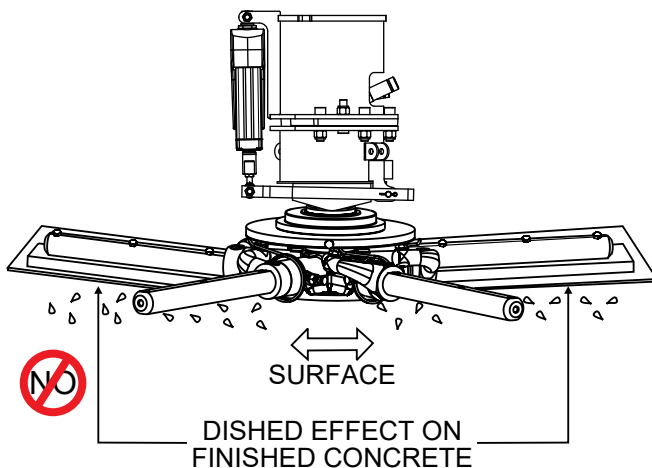

Figure 70. Incorrect Spider Plate Alignment
3. If any adjustment bolts are not making contact with the lower wear plate, adjustment will be necessary. Figure 70 illustrates incorrect alignment, worn spider bushings, or bent trowel arms.